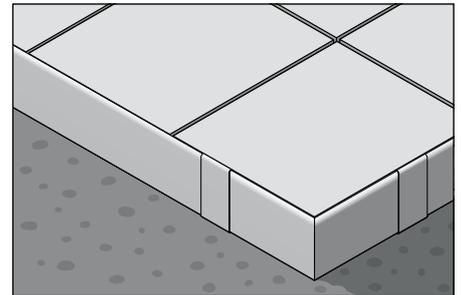

Fig. 7
### Installation with self-supporting pavers on the paver support system TROBA-LEVEL with BARA-RT / BARA-RTC (Fig. 7)
2. If using the paver support system TROBA-LEVEL, the BARA-RT / BARA-RTC finishing profile covers the exposed edge of the cover assembly (Fig. 7).